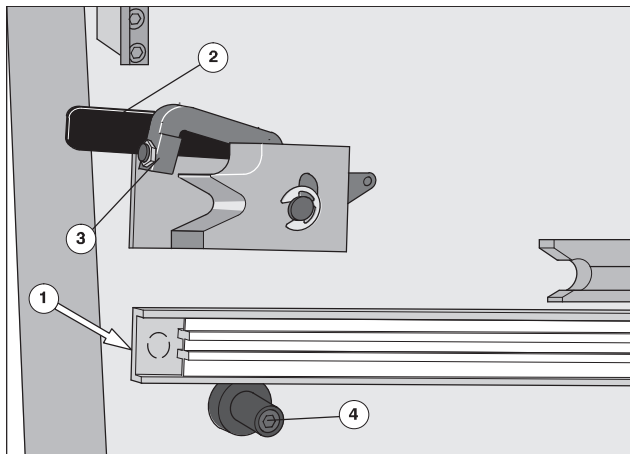
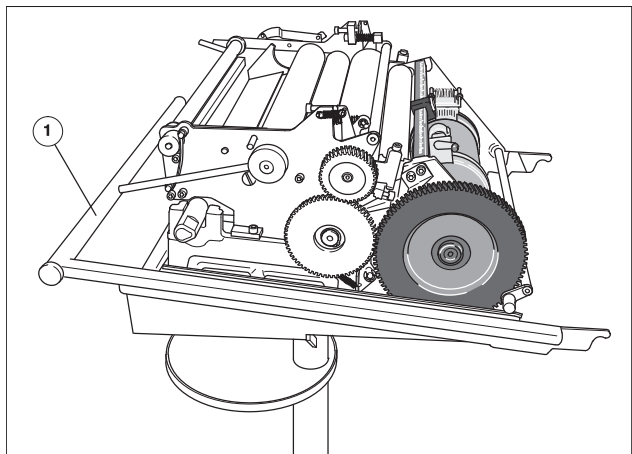

Fig. 53 Guide rail and coupling for the numbering slide-in unit at the press
Fig. 54 Numbering slide-in unit
2. Pull the locking lever on D.S. (Fig. 53/2) and O.S. towards the delivery up to stop; the coupling (Fig. 53/3) for the numbering slide-in unit opens.
3. When sliding the slide-in carriage to the guide pins in the side frame, press the handle rod at the slide-in carriage (Fig. 54/1) downwards. The tips of the guide rails of the carriage can then easily slide over the guide pins (Fig. 53/4) at the press.